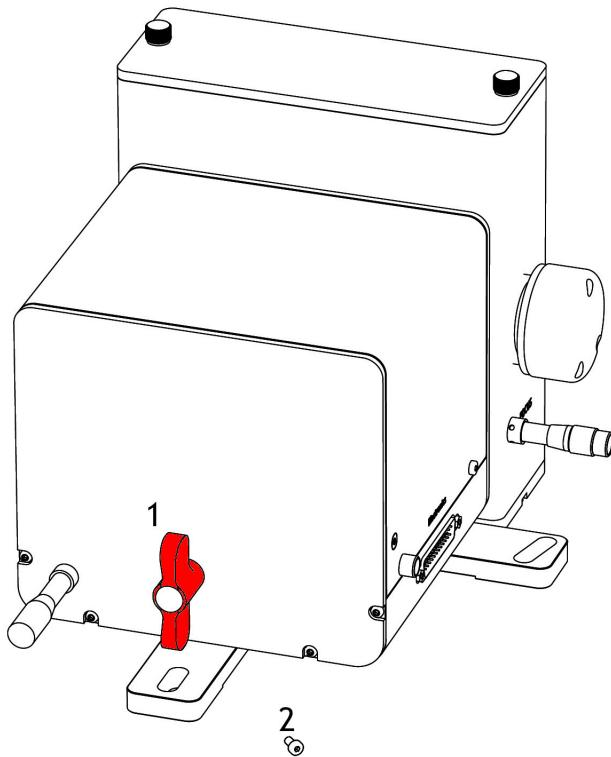

Figure 3.4.: Transportation screw (1) installed (for transportation), not included with *pulseCheck* USB 150!
The optical head is secured by a transportation screw. After unpacking the *pulseCheck* parts please remove screw (1) and replace with cover pin (2) (see Figure 3.4 and 3.5).